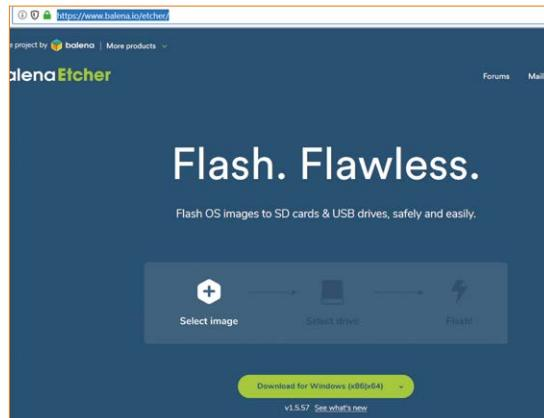

Figure 2.2: Download Etcher.
- Download the Etcher program to your PC to flash the disk image. The link is (see Figure 2.2):